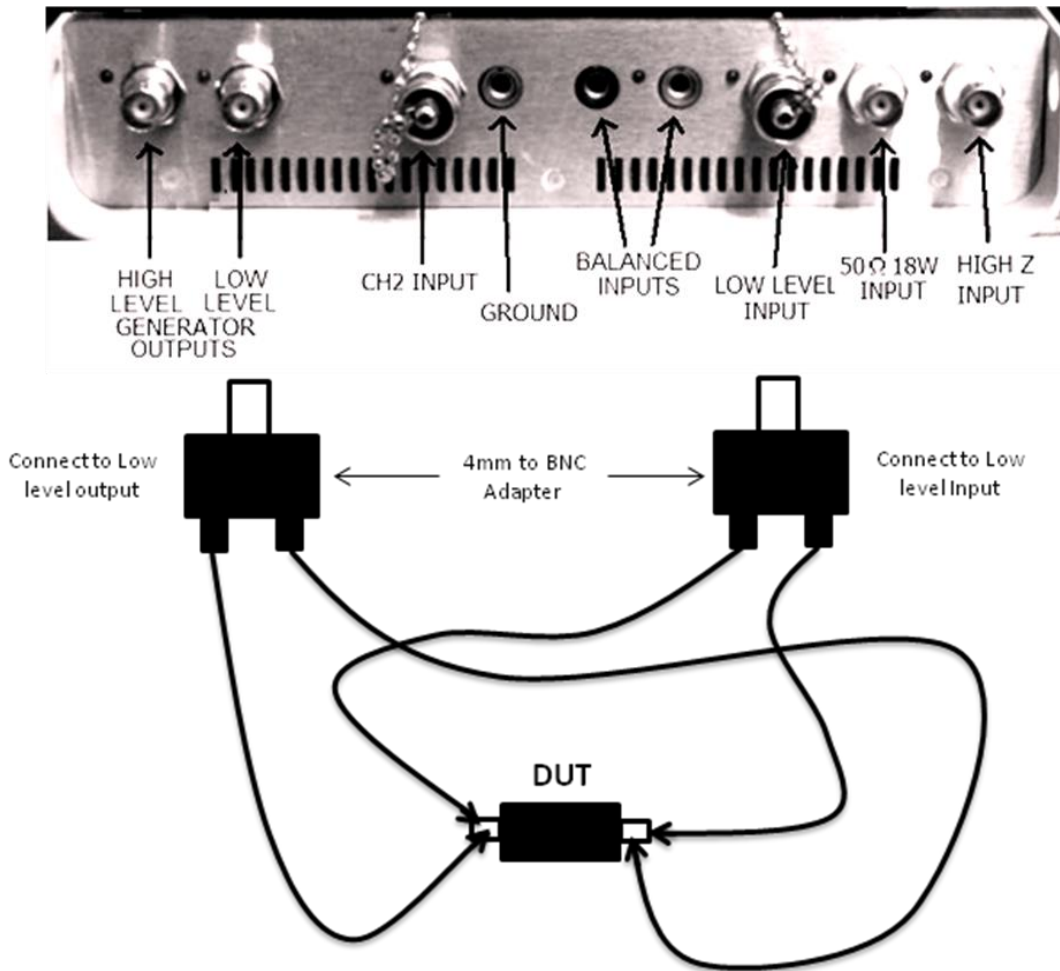

Fig 18.7
Figure 18.7 shows the setup for basic capacitance measurement.
- (1) Press the "IMP" key to select impedance mode.
- (2) Select the "output" menu and set the frequency to "1KHz" the low output is automatically selected in this mode. (Other options leave as default settings).
- (3) Select the "input" menu and set the input to "low level". (Other options leave as default settings).
- (4) Select the measure menu and set the measurement to "parallel circuit" (Other options leave as default settings).
- (5) Connect the instrument and DUT capacitor as per Fig 18.7 below then revert to the main display where it will show the measured capacitance.